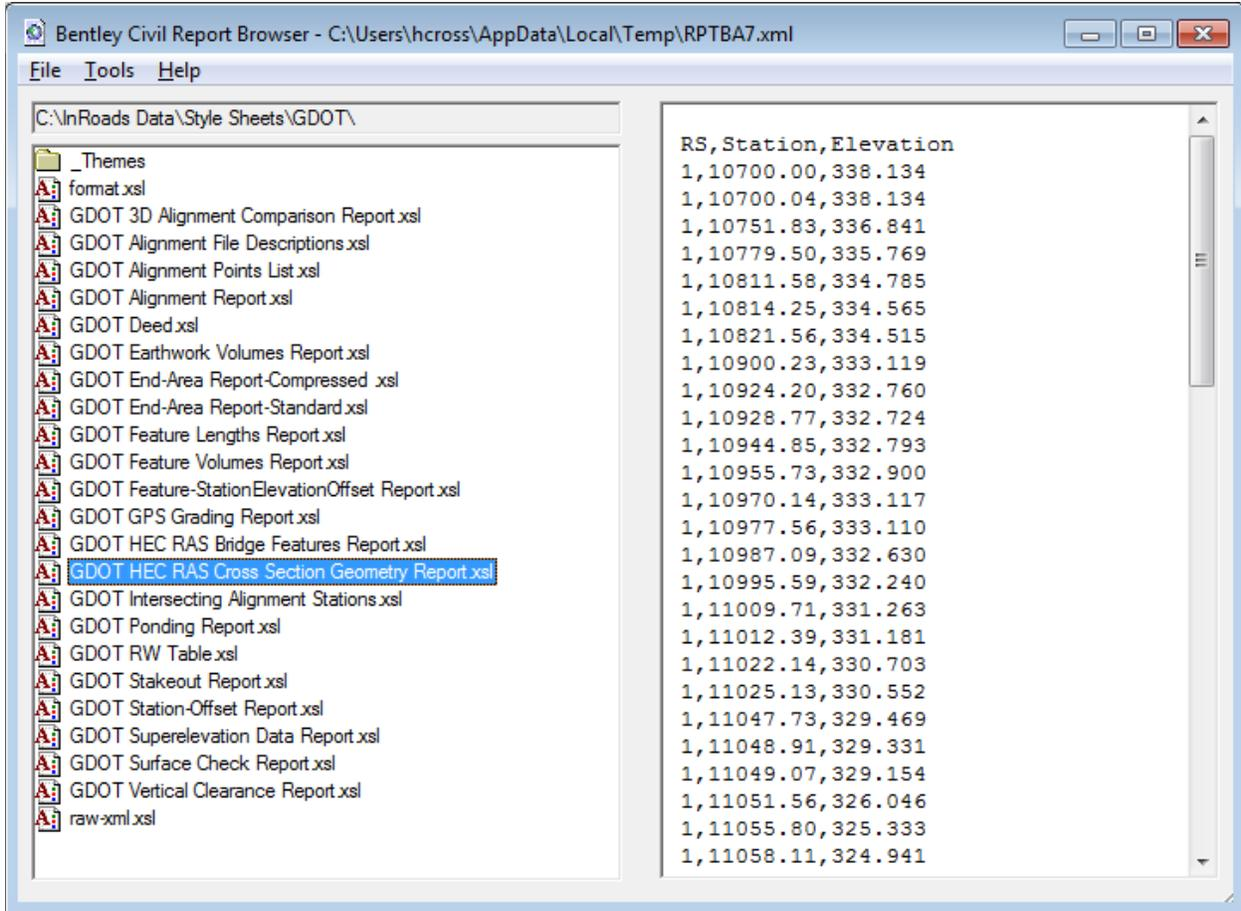

Figure L3-21 Bentley Civil Report Browser
- Verify your view matches that shown in *Figure L3-21*.